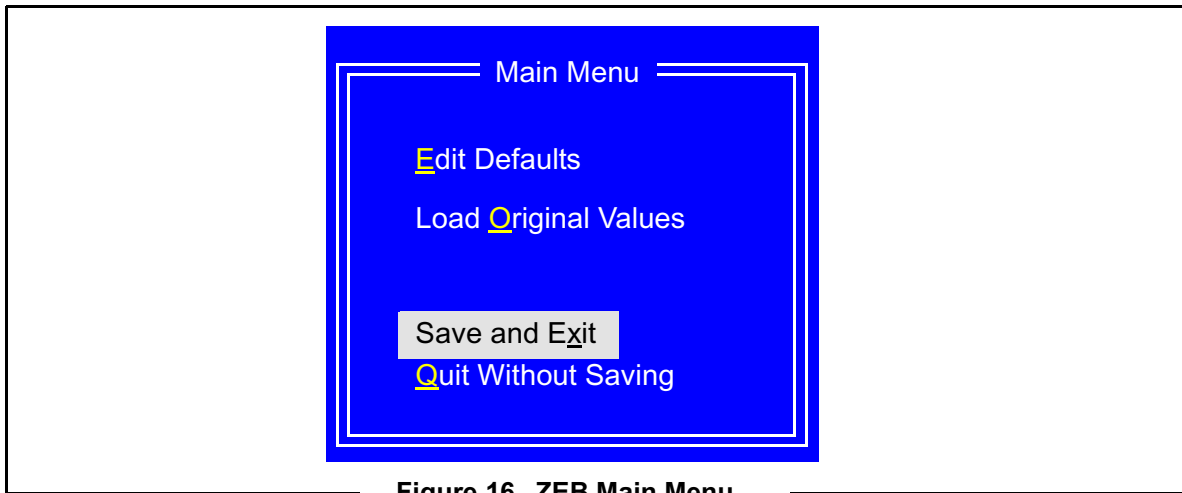

Figure 16. ZEB Main Menu
- a. Use the down arrow to select Save and Exit. See Figure 16.